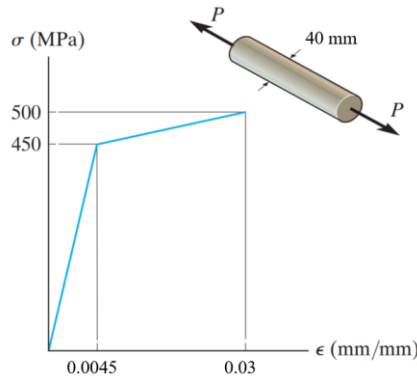

Figure 1
1. The stress–strain diagram for an aluminum alloy is shown in Figure 1. A specimen of such material has an original diameter of 40 mm and an original length of 20 cm. When the applied load on the specimen is 500 kN, the diameter contracts to 39.95225 mm. (a) What is the length of the specimen after the load is applied? (b) Determine the shear modulus for the aluminum. $G = E/2(1+\nu)$. (c) If the specimen is subjected to a tensile strain of 0.03 and then unloaded, what is the final length of the specimen? (20')